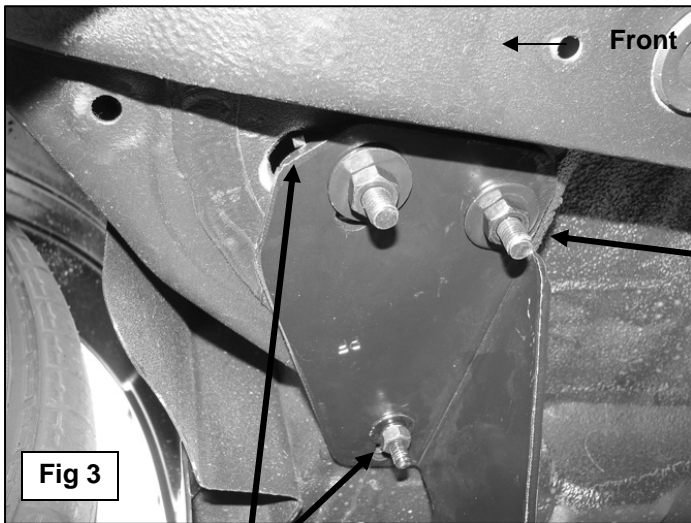

Fig 3
Bolt with (1) 8mm Flat Washer, (1) 8mm Lock Washer and (1) 8mm Hex Nut. Secure the Bracket to the Double Bolt Plate with the supplied (2) 10mm x 30mm x 2.5mm Large Flat Washers, (2) 10mm Lock Washers and (2) 10mm Hex Nuts, **(Figure 3)**. Snug but do not tighten hardware at this time.